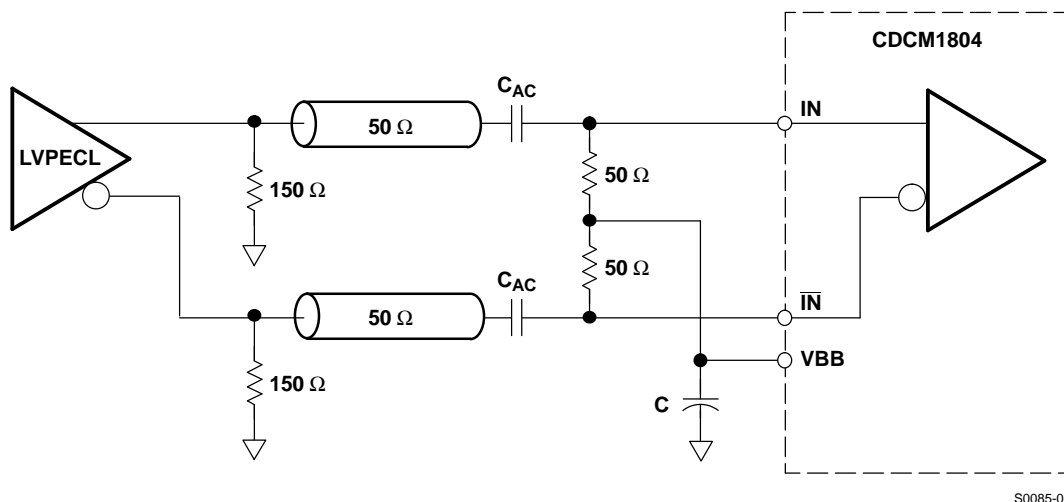

Figure 12. Recommended AC-Coupling LVPECL Receiver Input Termination
For optimized noise performance, it is recommended to properly terminate the PCB trace (transmission line). If a differential signal drives the CDCM1804, then a 100- Ω termination resistor is recommended to be placed as close as possible across the input terminals. An even better approach is to install $2 \times 50\ \Omega$, with the center tap connected to a capacitor (C) to terminate odd-mode noise and make up for transmission-line mismatches. The VBB output can also be connected to the center tap to bias the input signal to ($V_{DD} - 1.3\text{ V}$) (see Figure 12).